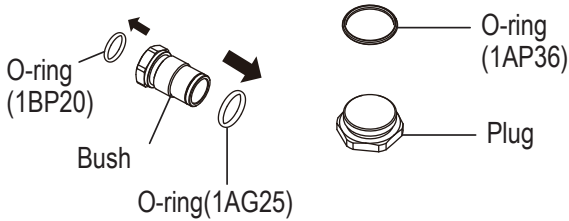

Fig.28
g. Remove the O-rings. (Fig.28)